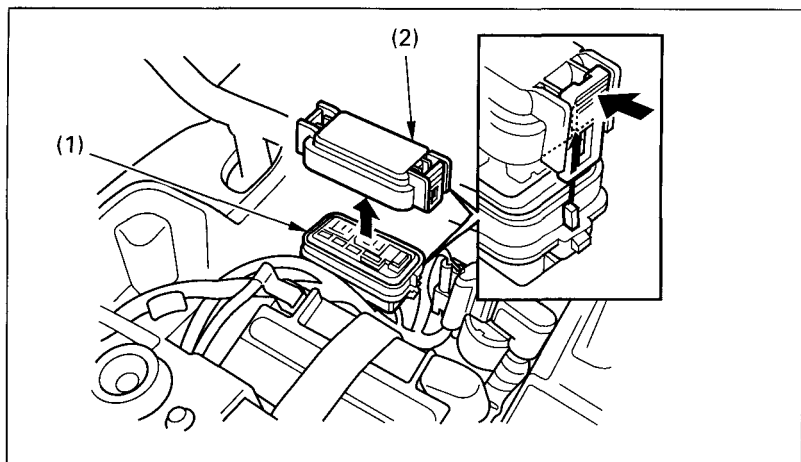

Fig. 4-21
As illustrated in Fig.4-21 , the fuse box (1) is located in the battery compartment. The main fuse, main fuse (electric shift motor), sub fuses and spare fuses are located in the fuse box.